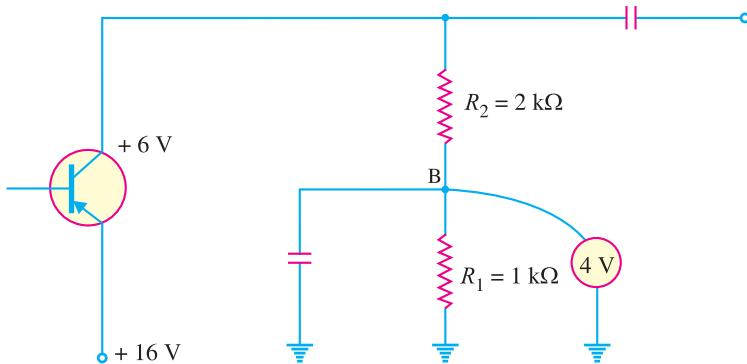

Fig. 10.22
**Example 10.12.** Fig. 10.22 shows a transistor circuit. The manufacturer of the circuit shows that collector potential is to be +6V. The voltage measured at point B by a technician is found to be +4V. Is the circuit operating properly?